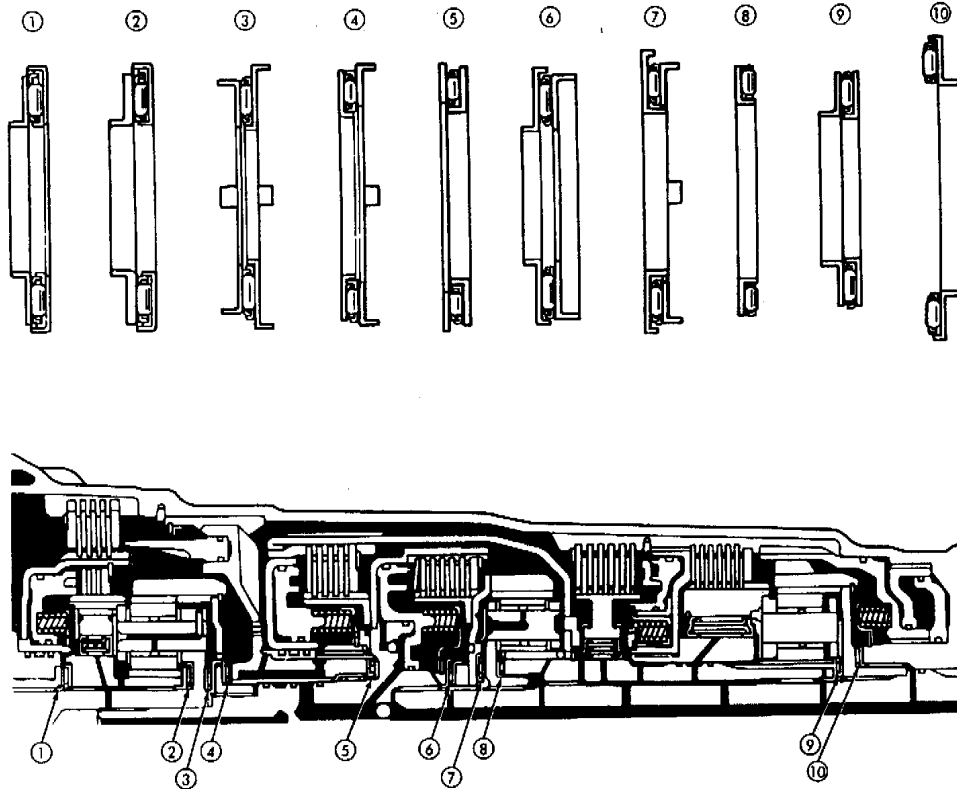

Fig. 2 Thrust Bearing Chart
(1) During assembly, lubricate components with transmission fluid or petroleum jelly as indicated.
(2) If any of the transmission components are still assembled after overhaul checking procedures, disassemble as necessary in preparation for transmission assembly.
(3) Verify thrust bearing and race installation during assembly. Refer to the Thrust Bearing Chart (Fig. 2) for bearing and race location and correct positioning.
(4) Install rear planetary gear, second brake drum and output shaft as outlined in following steps:
(5) Verify No. 10 thrust bearing and race (Fig. 2). Bearing and race outer diameter is 57.7 mm (2.272 in); inside diameter is 39.2 mm (1.543 in).